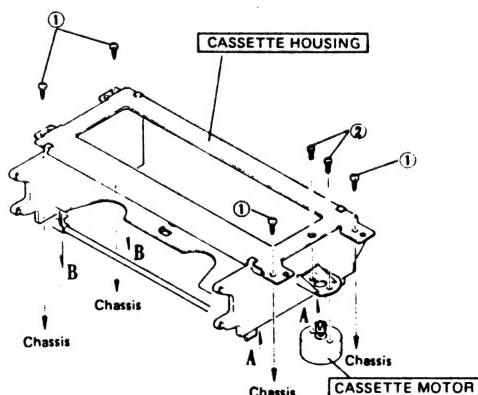

Fig. 2-5 Removint cassette housing
- Take out 2 screws ② and replace the cassette motor (see Fig. 2-5).